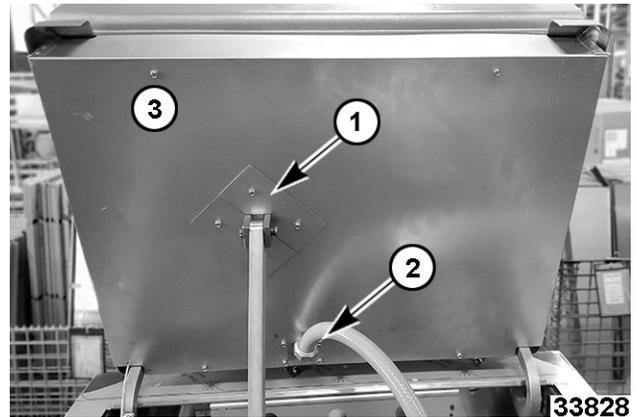

Fig. 29
- A. Remove lift arm (1, Fig. 29).
- B. Remove hose (2, Fig. 29) connection.
- C. Remove bottom panel mounting screws (3, Fig. 29).